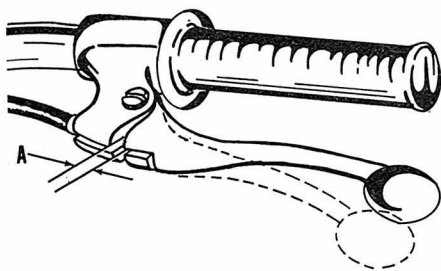
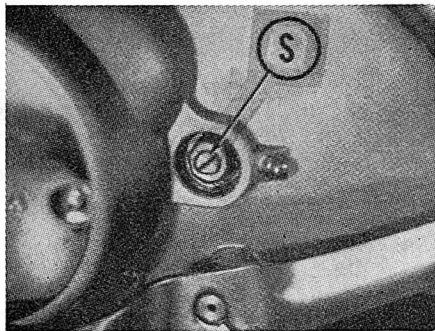
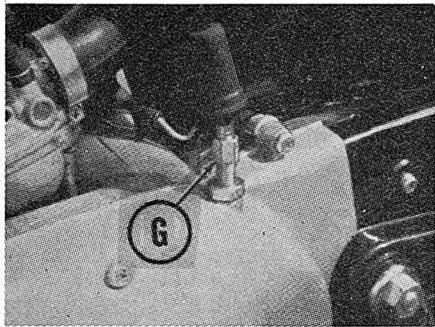

Fig. Y2-9—The clutch hand lever should have  $\frac{1}{16}$ – $\frac{1}{8}$  inch free play at (A).
Fig. Y2-10—The clutch adjusting screw (S) is located under rubber plug in engine left side cover.
Fig. Y2-11—Clutch hand lever (cable) free play is adjusted by turning cable guide (G).
**CLUTCH CONTROLS.** The clutch hand lever should have 0.08–0.12 inch free play at (A—Fig. Y2-9). To adjust, remove the rubber plug from engine left side cover and loosen lock nut. Turn the adjusting screw (S—Fig. Y2-10) in until slight resistance is felt, then back screw out  $\frac{1}{4}$  turn and tighten lock nut. Turn the cable guide (G—Fig. Y2-11) until the hand lever free play (A—Fig. Y2-9) is correct.